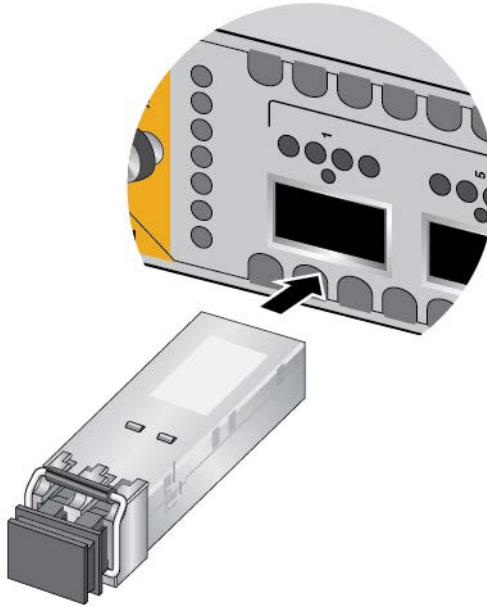

Figure 135. Installing 40Gbps Fiber Optic Transceivers in XEM2-4QS Line Cards
- ❑ 40Gbps transceivers in XEM2-4QS Line Cards - refer to Figure 135.